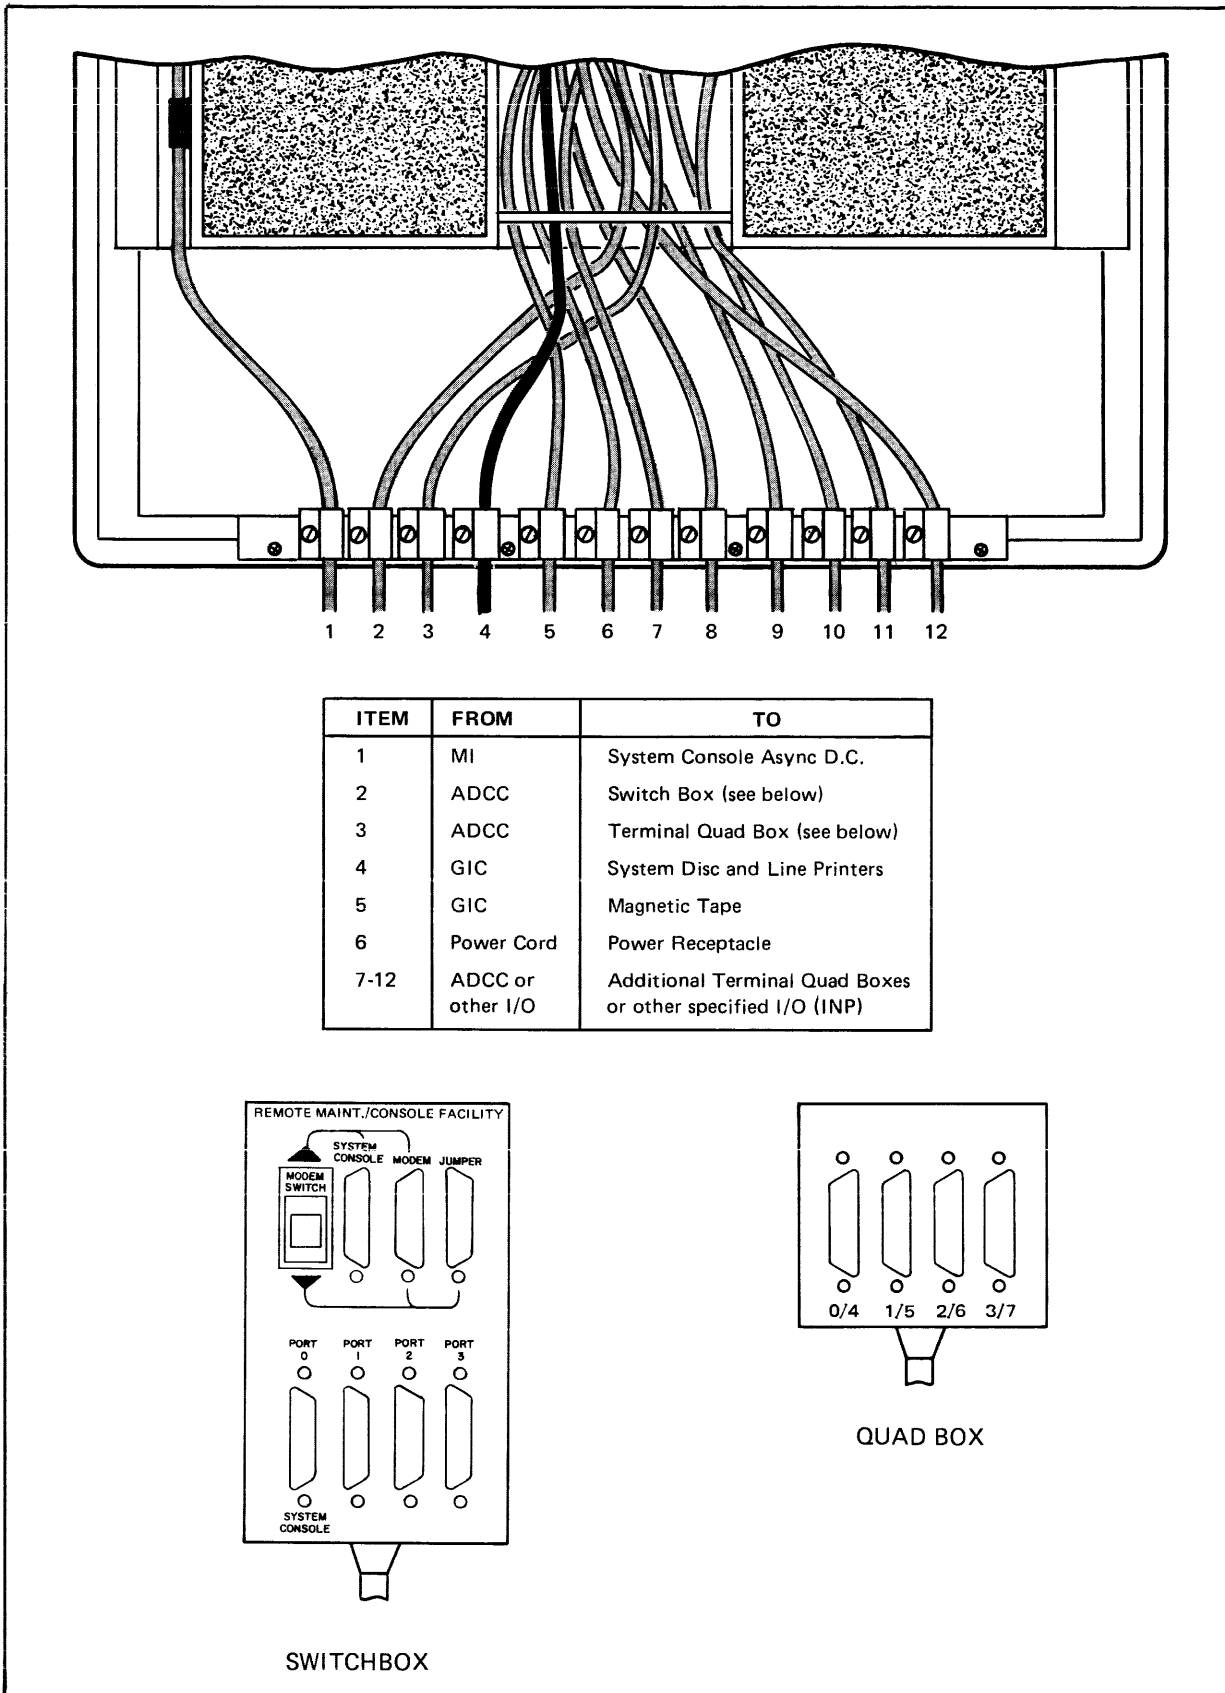

Figure 3-4. Cable Routing Area
7. Route the HP-IB cable to the processor cable area as shown in figure 3-4. Connect the cable to the GIC channel as specified in Appendix A.